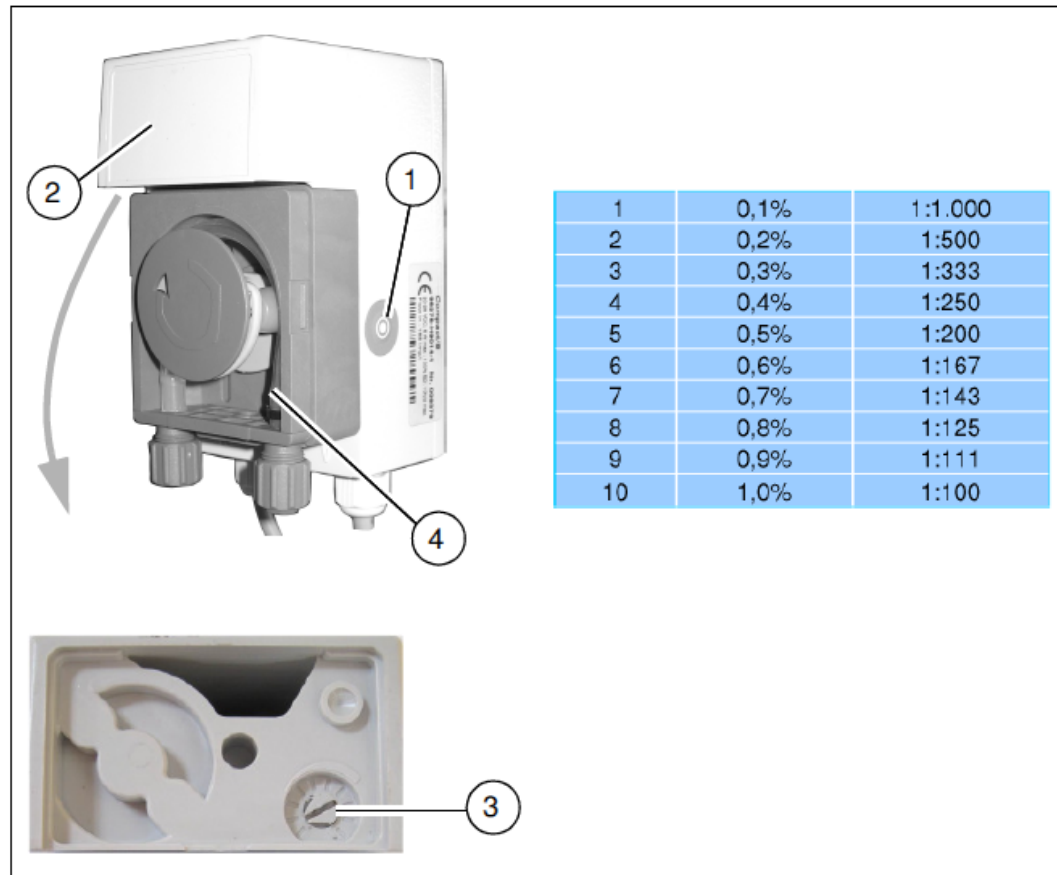

Fig. 10
4. Press the quick fill switch (Fig. 10/1) on the dosing pump until the chemical is at the non-return valve.
1. Remove the gray cover (Fig. 10/2) from the dosing pump.
Set rotary knob (Fig. 10/3) between positions 1 and 2, refer to table.
Check the hose section (Fig. 10/4) in the hose pump (length approx. 23mm) and replace, if necessary.